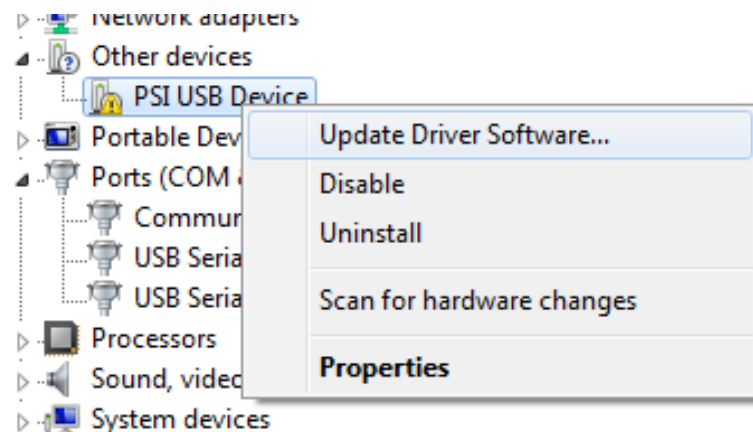

Fig. 12 PSI USB device.
- Connect the SpectraPen to the PC. You should see that PSI USB Device appears in the list. Right click on it and select Update Driver Software (Fig. 12).